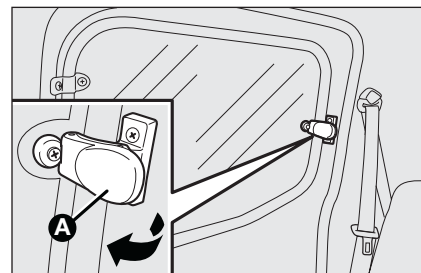

fig. 67
- ☐ move lever **A**-fig. 67 outwards until the window opens completely;